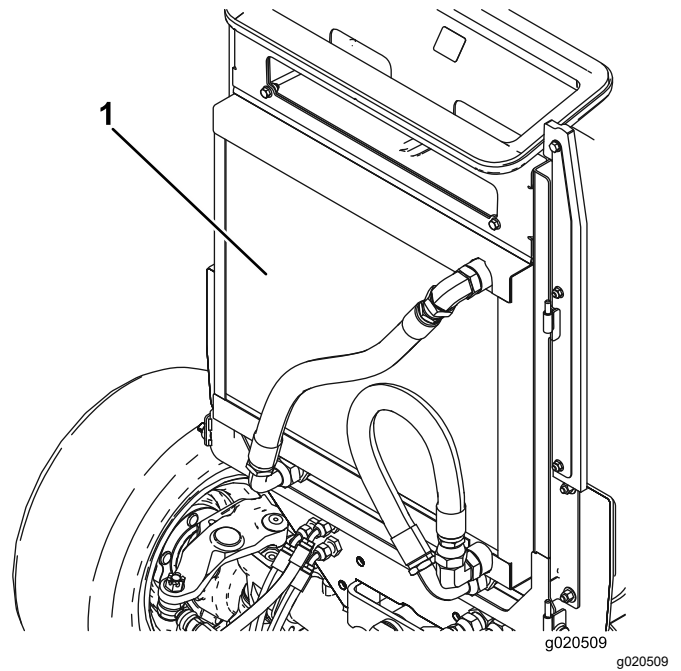

Figure 94
2. Clean both sides of the oil cooler/radiator area (Figure 94) thoroughly with compressed air. Start from the front and blow the debris out towards the back. Then clean from the back side and blow towards the front. Repeat procedure several times until all chaff and debris is removed.